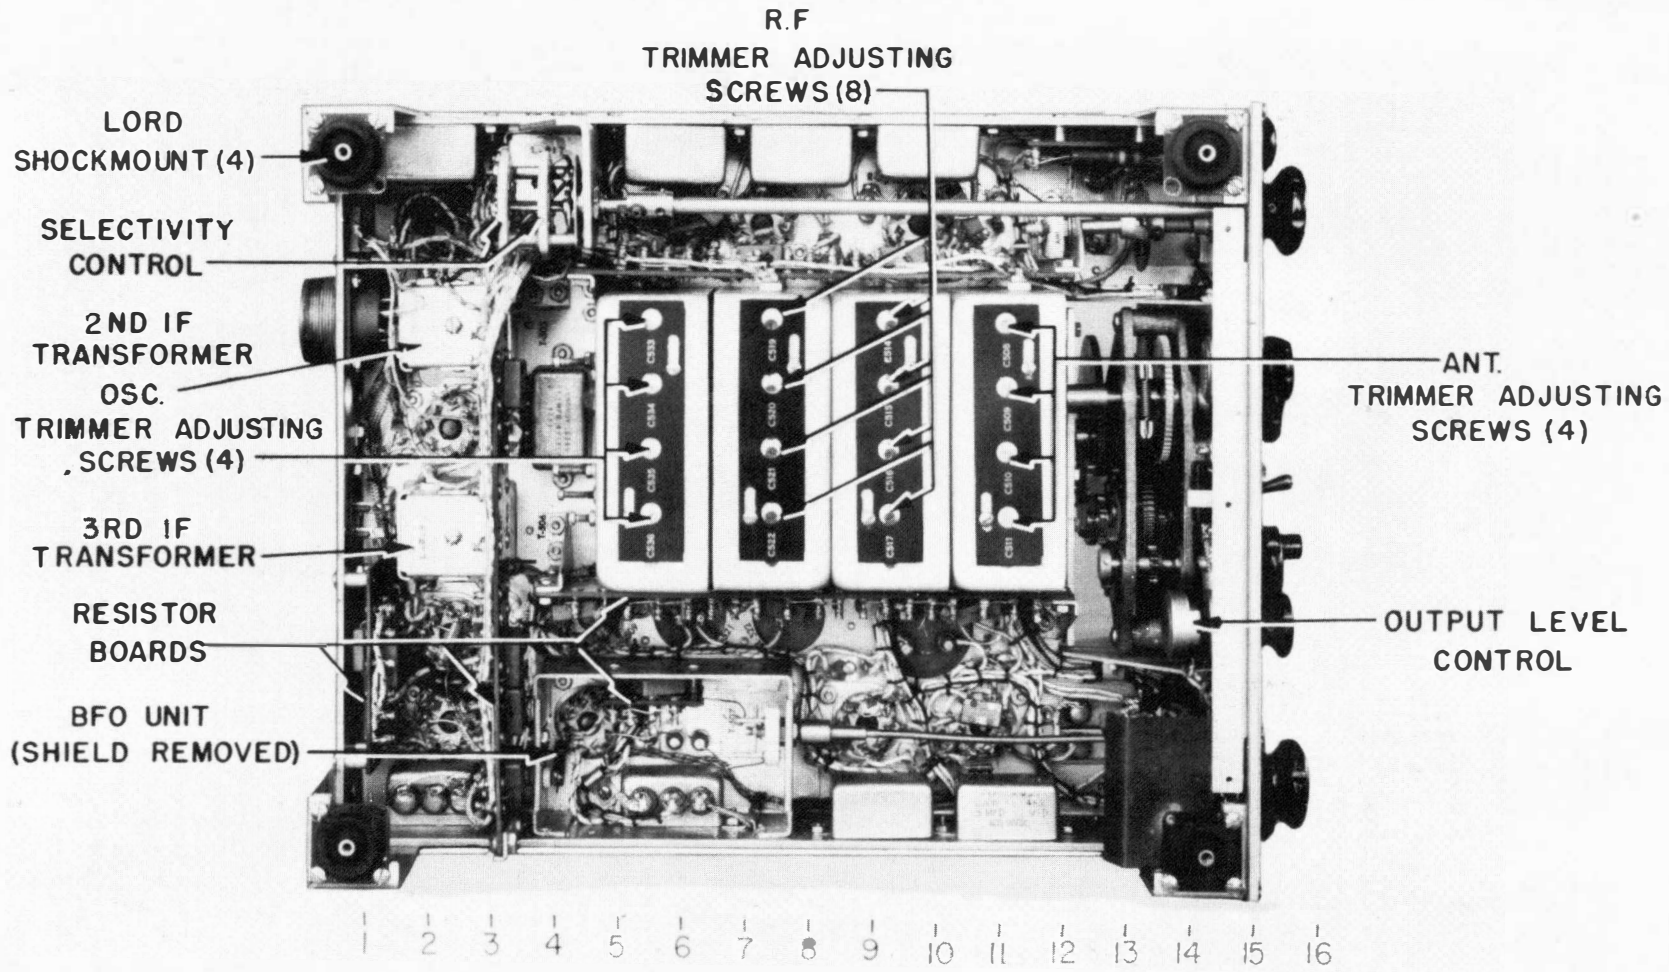

Figure 1-6. Navy Type R-303/FRR Radio Receiver Chassis, Showing Principal Components. (Bottom View).
(2) BOTTOM OF CHASSIS.—On the under side of the chassis are the antenna, the radio frequency, and the oscillator transformer assemblies (T-501, T-502, T-503), three long resistor-capacitor boards, three short resistor-capacitor boards, and all filter and bypass capacitors with the exception of C-562, C-574 and C-575. All wiring, except that integral with the units on top of the chassis or required for their connection into the circuit, is contained below the chassis. (See Figure 1-6).